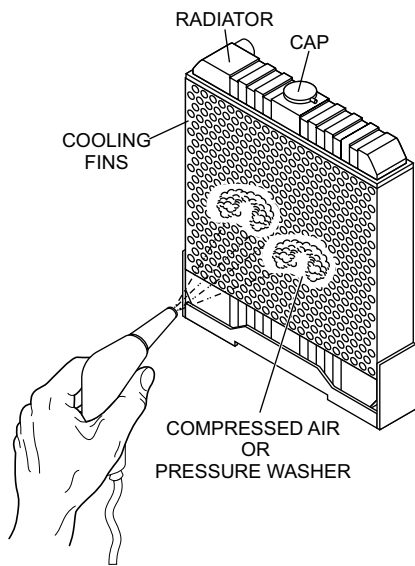

Figure 24. Radiator Cleaning
5. Blow off dirt and dust from fins and radiator with 28 psi (193 kPa) or less of compressed air (Figure 24). Be careful not to damage the fins with the compressed air.